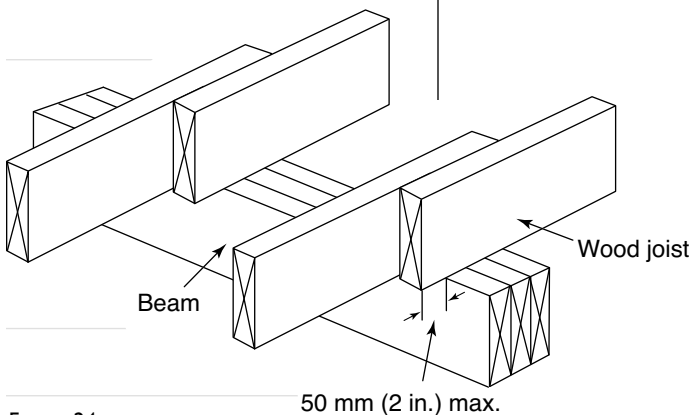

FIGURE 24
- ◆ Since joists will always deflect under load, the effects of the deflection must be minimized. Do not extend joists more than 50 mm (2 in.) beyond the beam. In fact, many builders cut the joists so that they do not overlap, butting them end to end over the support instead. Bottoms of floor joists must be restrained from twisting by toe-nailing to the supports or blocking between the joists (see Figure 24).